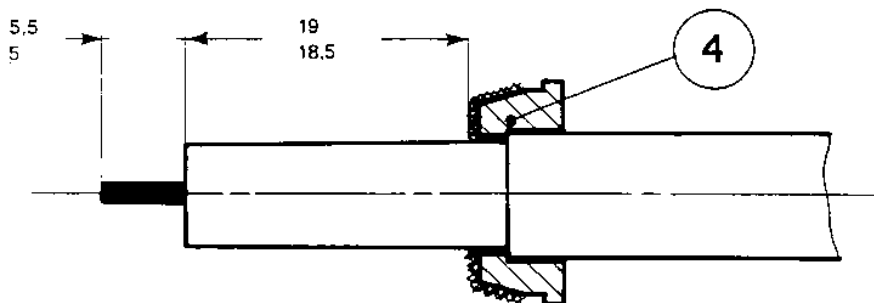

Figure 5
- 4) Slide braid cone (4) until it stops against jacket, see Figure 5.